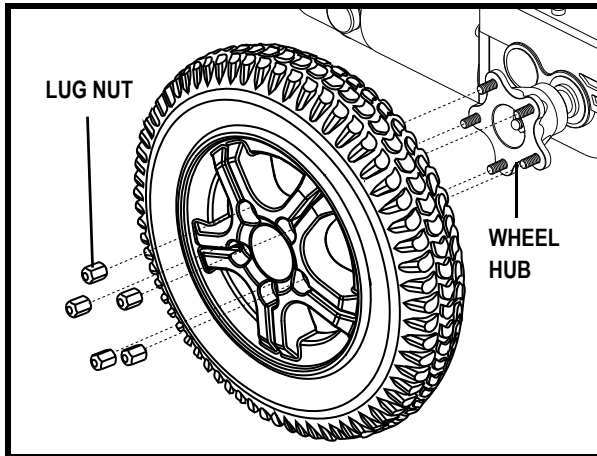

Figure 27. Fusion Drive Wheel
4. Remove the lug nuts from the wheel hub. See figure 27.